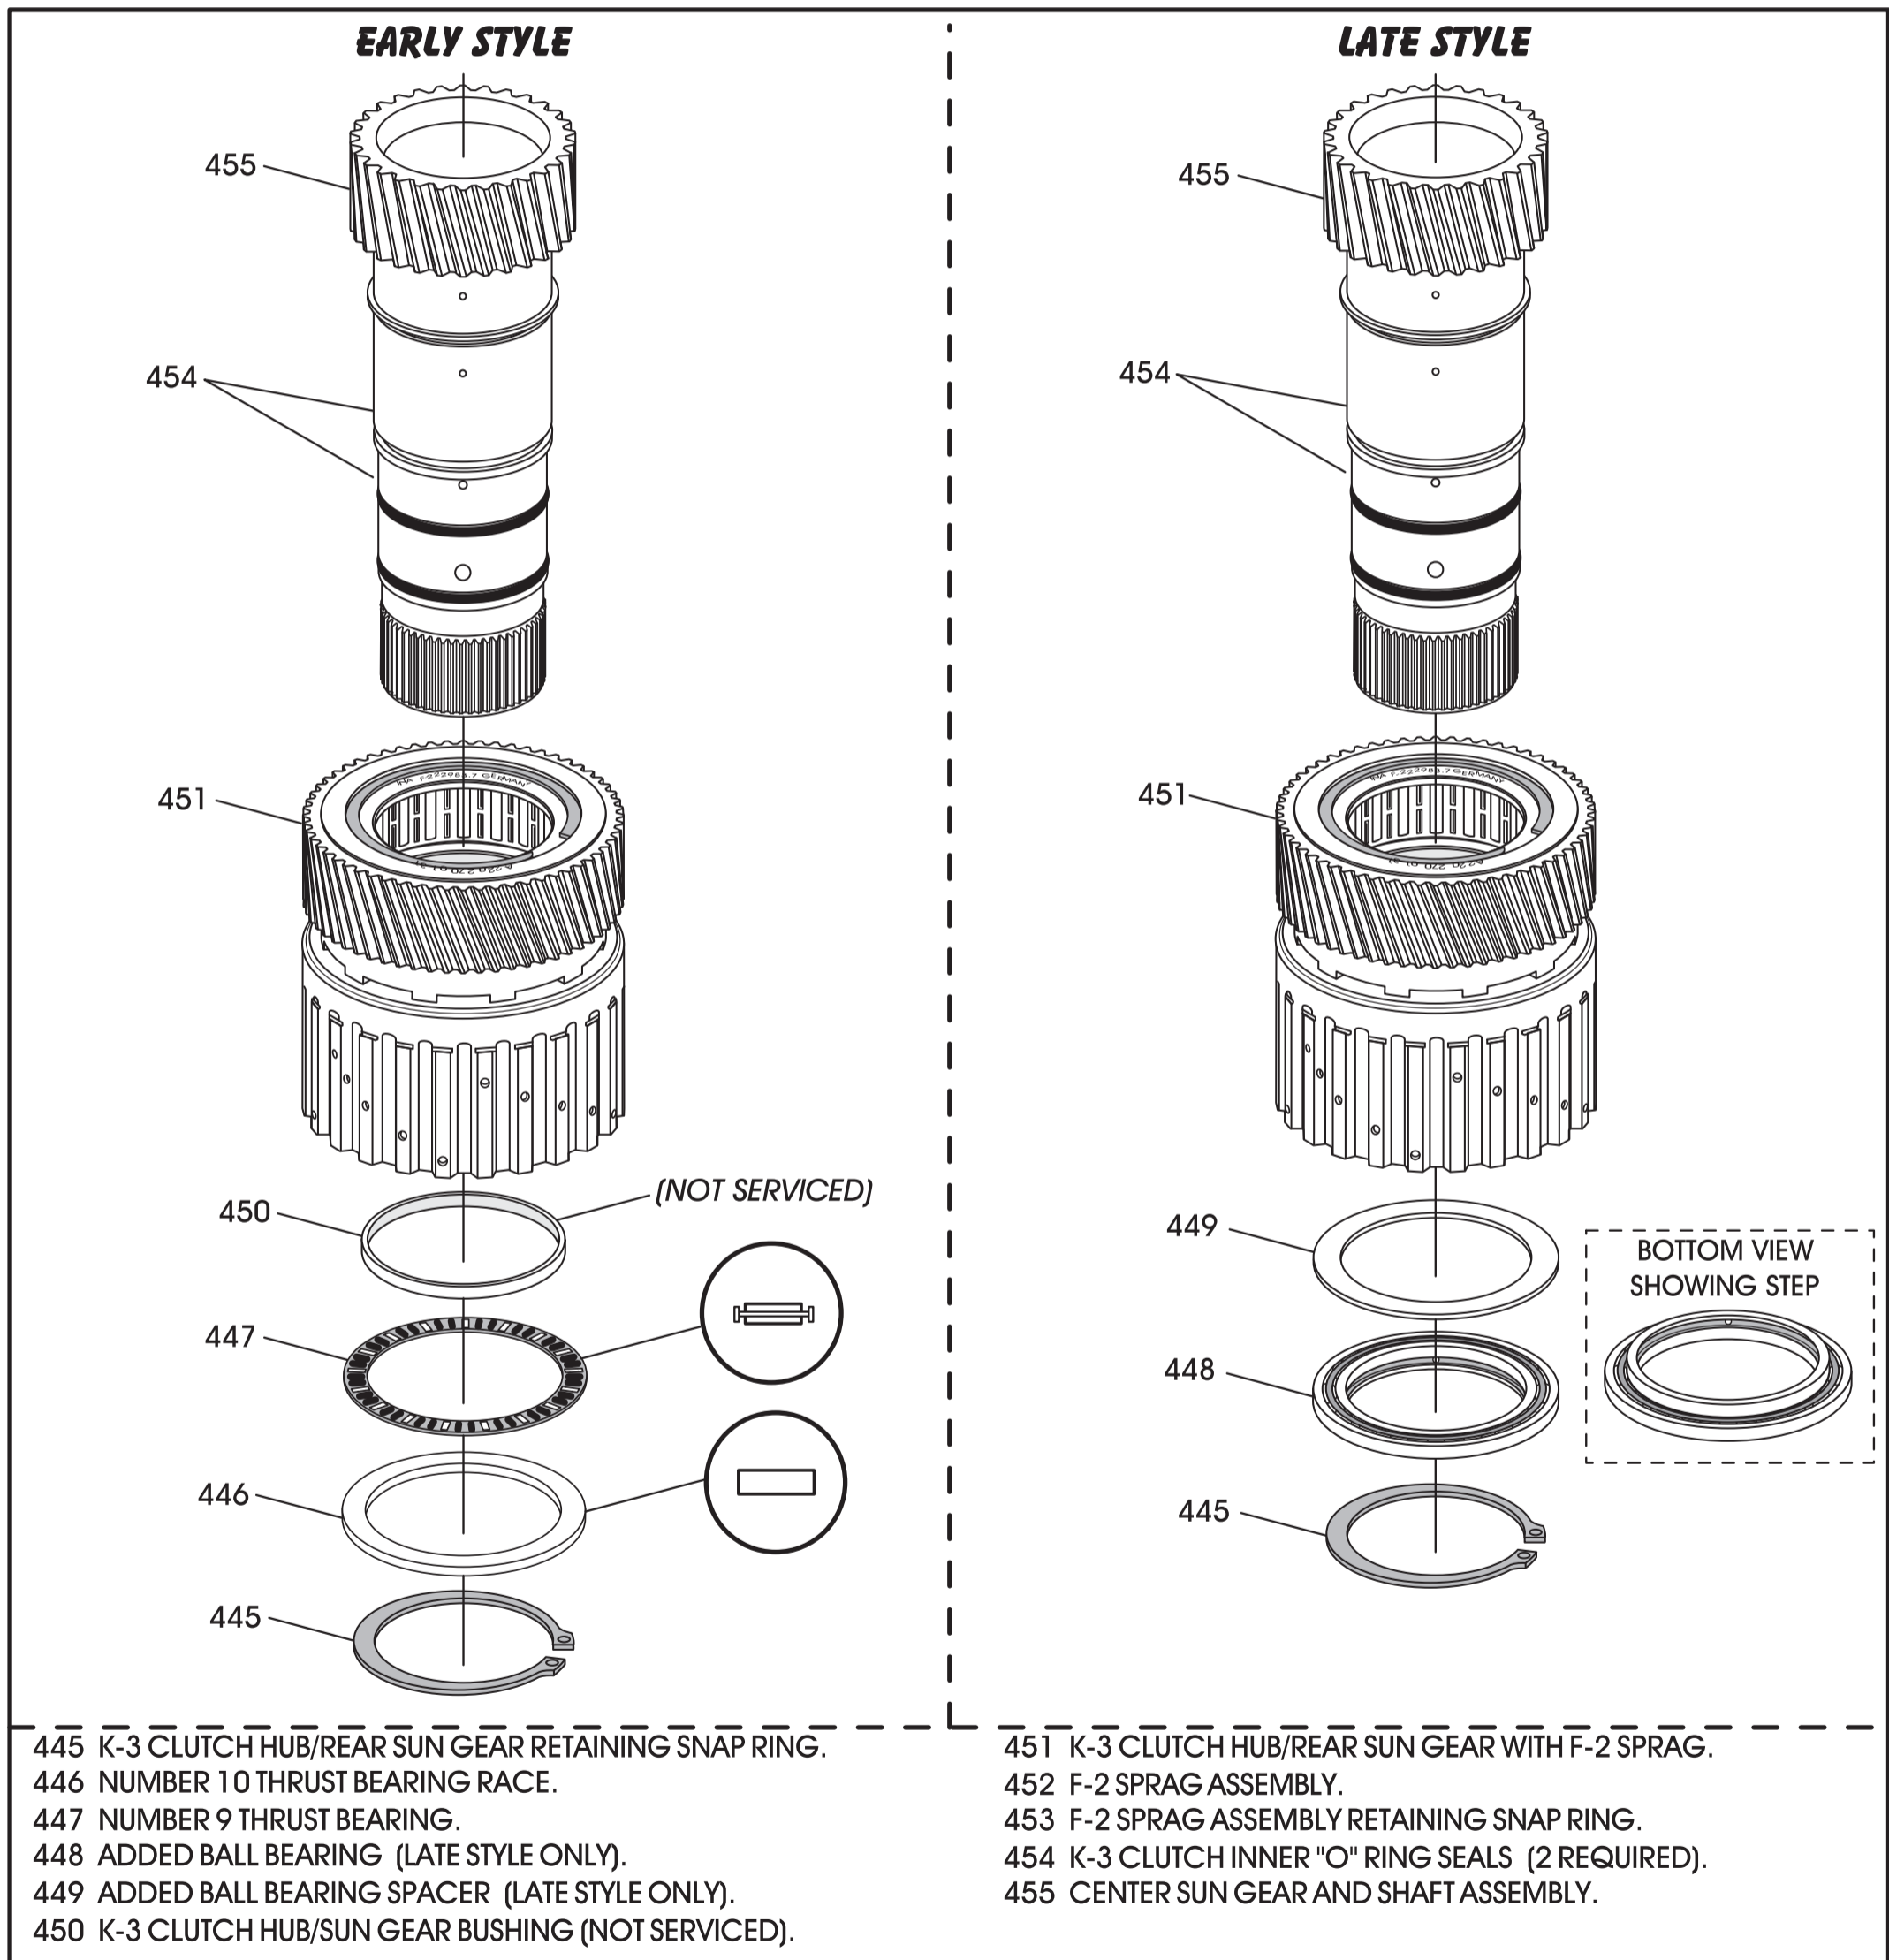

Figure 124
2. The rear sun gear changed with the bushing being replaced with a ball bearing, as shown in Figure 124.
3. This allowed the elimination of the number 9 thrust bearing and number 10 thrust bearing race, as shown in Figure 124.